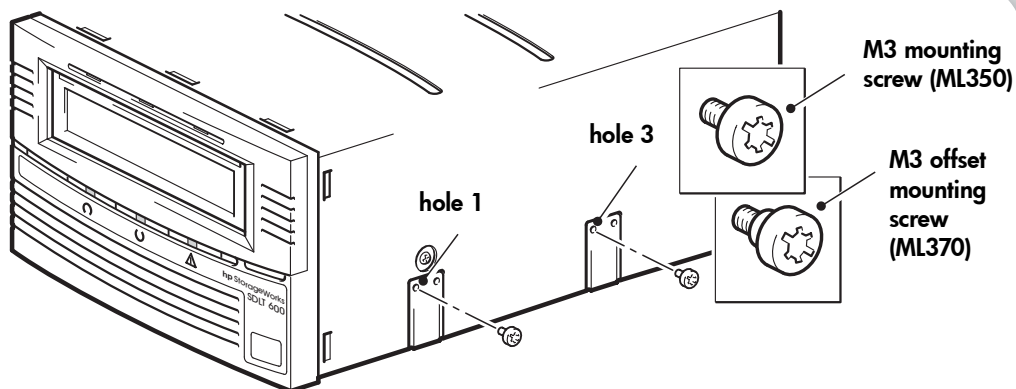

Figure 5c: attach mounting screws in a typical HP ProLiant ML350 or 370 server
- 1 Use a T8 Torx screwdriver to attach the appropriate screws. You may need to purchase the M3 screws separately. Position the screws in the right-hand holes on the tape drive (holes 1 and 3), as shown in Figure 5c.